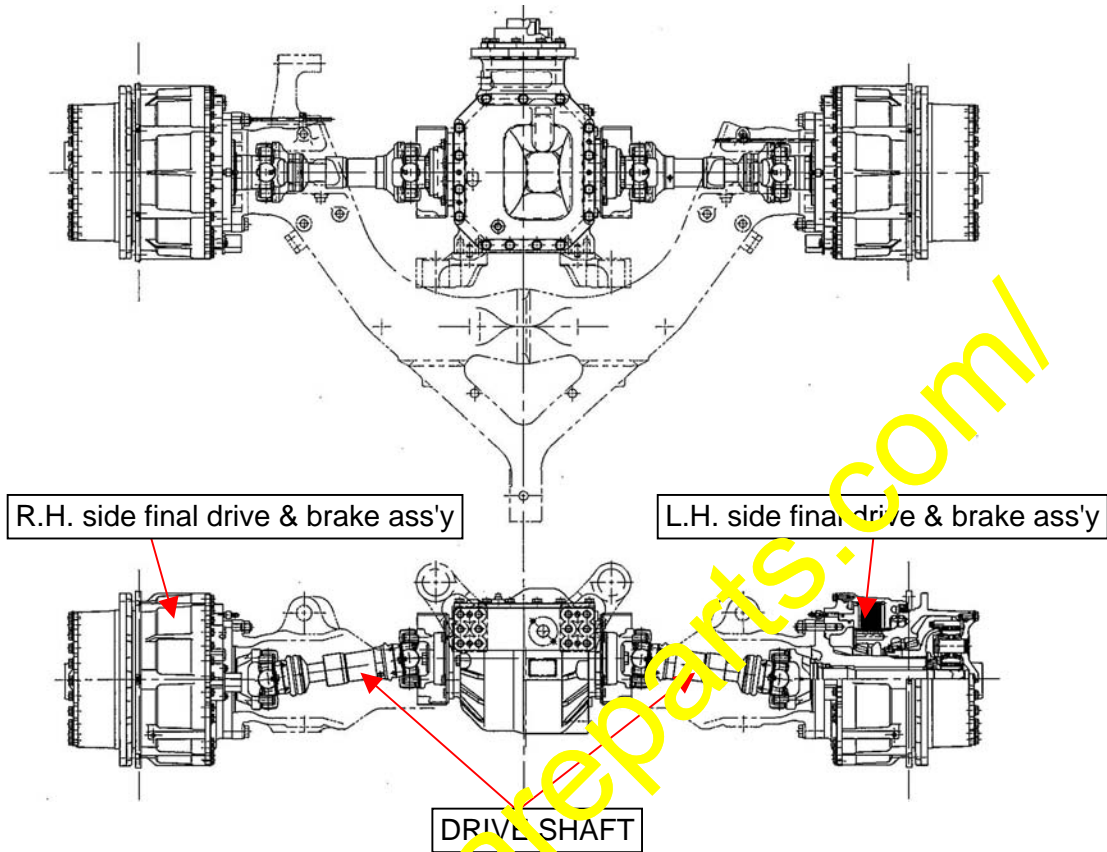

Fig. 3
- 5) Remove the LH and RH side drive shafts, and the LH and RH side final drive & brake assemblies. (Refer to Fig. 3.)